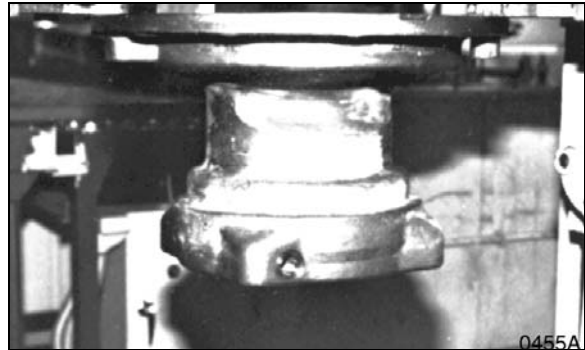

Figure 27
1. Position motor casing face down (Figure 27).